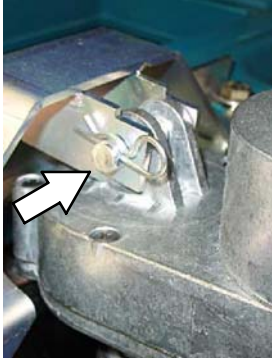

FIG. 4a
1. Connect the top end of the actuator to the machine using existing hardware (Fig. 4a). Do not connect the lower end of the actuator at this time.